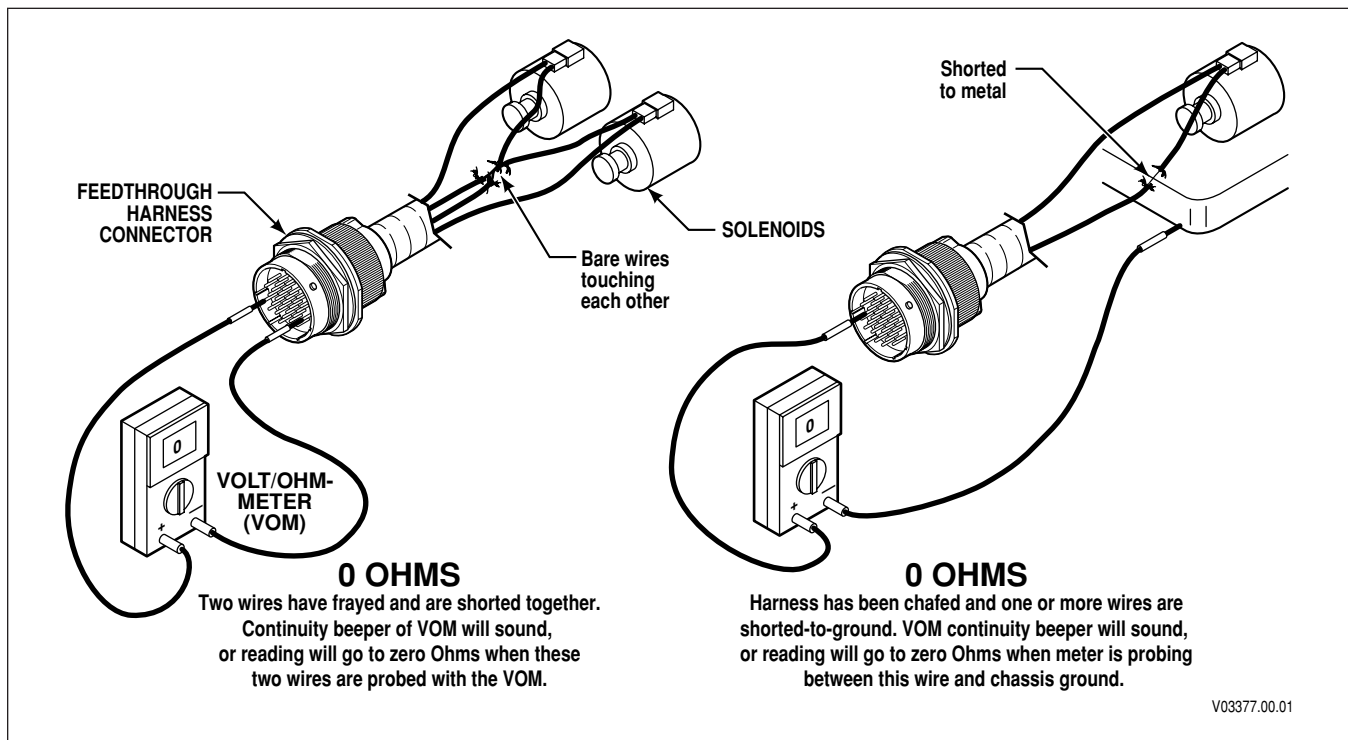

Figure 4-4. Short Between Wires and to Ground
- b. If the resistance test is good, test the harness for shorts between wires and to ground by performing the following (refer to Figure 4-4):
- (1) At the transmission connector, touch one probe of the VOM to one wire of the circuit being tested and touch the other probe to each terminal in the connector and to chassis ground and the transmission main housing. Do this for both wires in the circuit being tested.
- (2) If the VOM shows zero to low resistance, or the continuity beeper sounds, there is a short between the two points being probed, wire-to-wire or wire-to-ground. An indication of a short may be caused by a splice to the wire being tested. Inspect the wiring diagram in Appendix J for splice locations. If the short is not a splice, then isolate and repair the short.